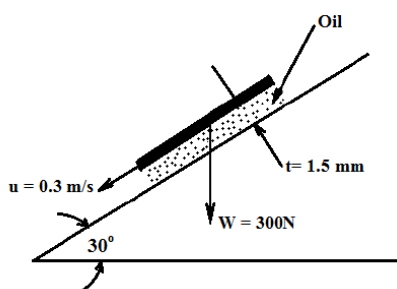

Figure1
- 10b**   Calculate dynamic viscosity of an oil which is used for lubrication between a square plate of size 0.8 m X 0.8 m and an inclined plane with angle of inclination of 30° as shown in figure1. The weight of the square plate is 300 N it slides down the inclined plane with the uniform velocity of 0.3 m/s. The thickness of oil film is 1.5 mm.    **8Marks**    **L2**    **C01**